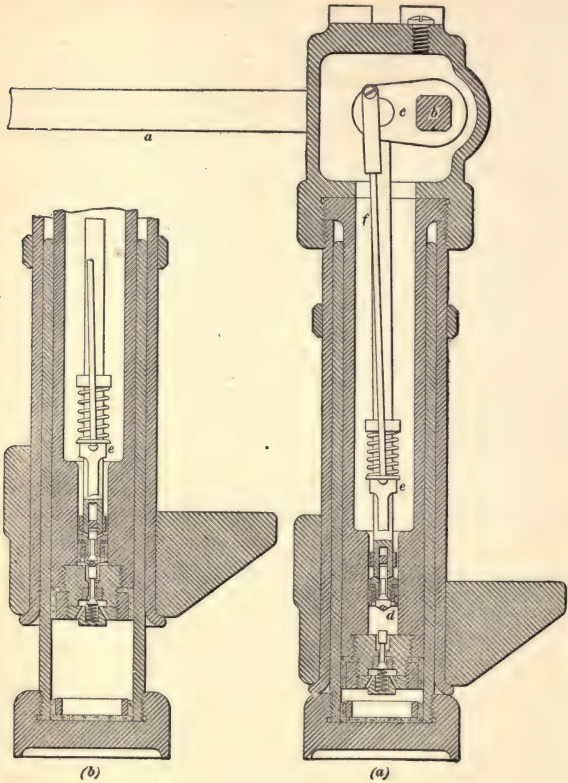

FIG. 10.
19. A Watson-Stillman hydraulic jack is shown in section in Fig. 10 (*a*). In this illustration, a is a lever that is depressed by the operator when he desires to raise the load. This lever freely fits a rectangular hole or socket in a shaft b that extends clear through the ram head. The shaft b carries the crank c to which the piston d is hinged. A small valve is placed in the center of the piston and serves to open or close communication between the water space above and below the piston. The lower end of the ram is fitted with a small check valve, which normally is held closed by the small spring shown beneath the valve. The inside of the jack is filled with a mixture of alcohol and water, about 2 parts of alcohol to 3 parts of water, which prevents the freezing of the liquid when the jack is used in cold weather. The operation is as follows:
The jack being clear down, as shown in Fig. 10 (*a*), it is placed under the load and the operator alternately depresses and raises the lever through its full range, the motion being limited by a projection on the under side of the lever. The slightest depression of the lever closes the valve in the piston. The downward movement of the piston continuing, the water between the bottom of the piston and the end of the ram is subjected to a pressure that opens the valve in the end of the ram. This allows the water under pressure to pass into the space beneath the ram. The pressure so transmitted to the lower end of the ram forces it upwards. The lever having been depressed to its limit is again raised. This raises the piston, causes the piston valve to open, and allows the water above the piston to flow beneath it. The pressure of the water below the ram promptly closes the ram valve as soon as the piston commences to move upwards. The operation may now be repeated as often as required.
In order to lower the ram, the lever is withdrawn from its socket and inserted again with the projection upwards. It can now be depressed far enough to cause the end of the piston to strike and open the ram-head valve, as shown in Fig. 10 (*b*), where the parts of the jack are shown in the relative positions occupied while lowering. But before the water in the bottom of the ram can escape to the top, the valve in the piston must also be opened. This is accomplished by a heavy spring that forces the sleeve *e* downwards. The lower end of the sleeve has a cotter working in a slot in the piston rod; the cotter bearing against the top of the valve forces the latter downwards. The sleeve is connected to the crank *c* by the so-called lowering wire *f*, in such a manner that the cotter will not strike the piston valve while the jack is raising the load. The ram will descend as long as the lever is kept hard down; it can be stopped instantly by raising the lever slightly.